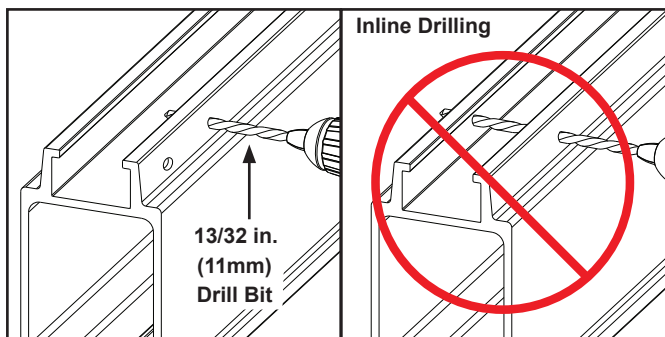

Figure 3-28
- Step 2. Drill two (2) holes using 13/32 in (11 mm) drill bit. Do not attempt to drill holes in-line. See Figure 3-28.